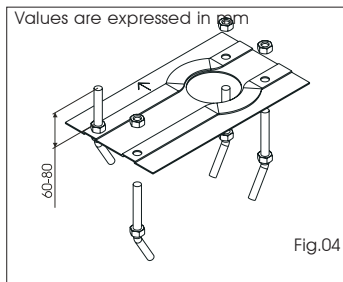

Fig.04
- Assemble the foundation plate as shown in figure 04.